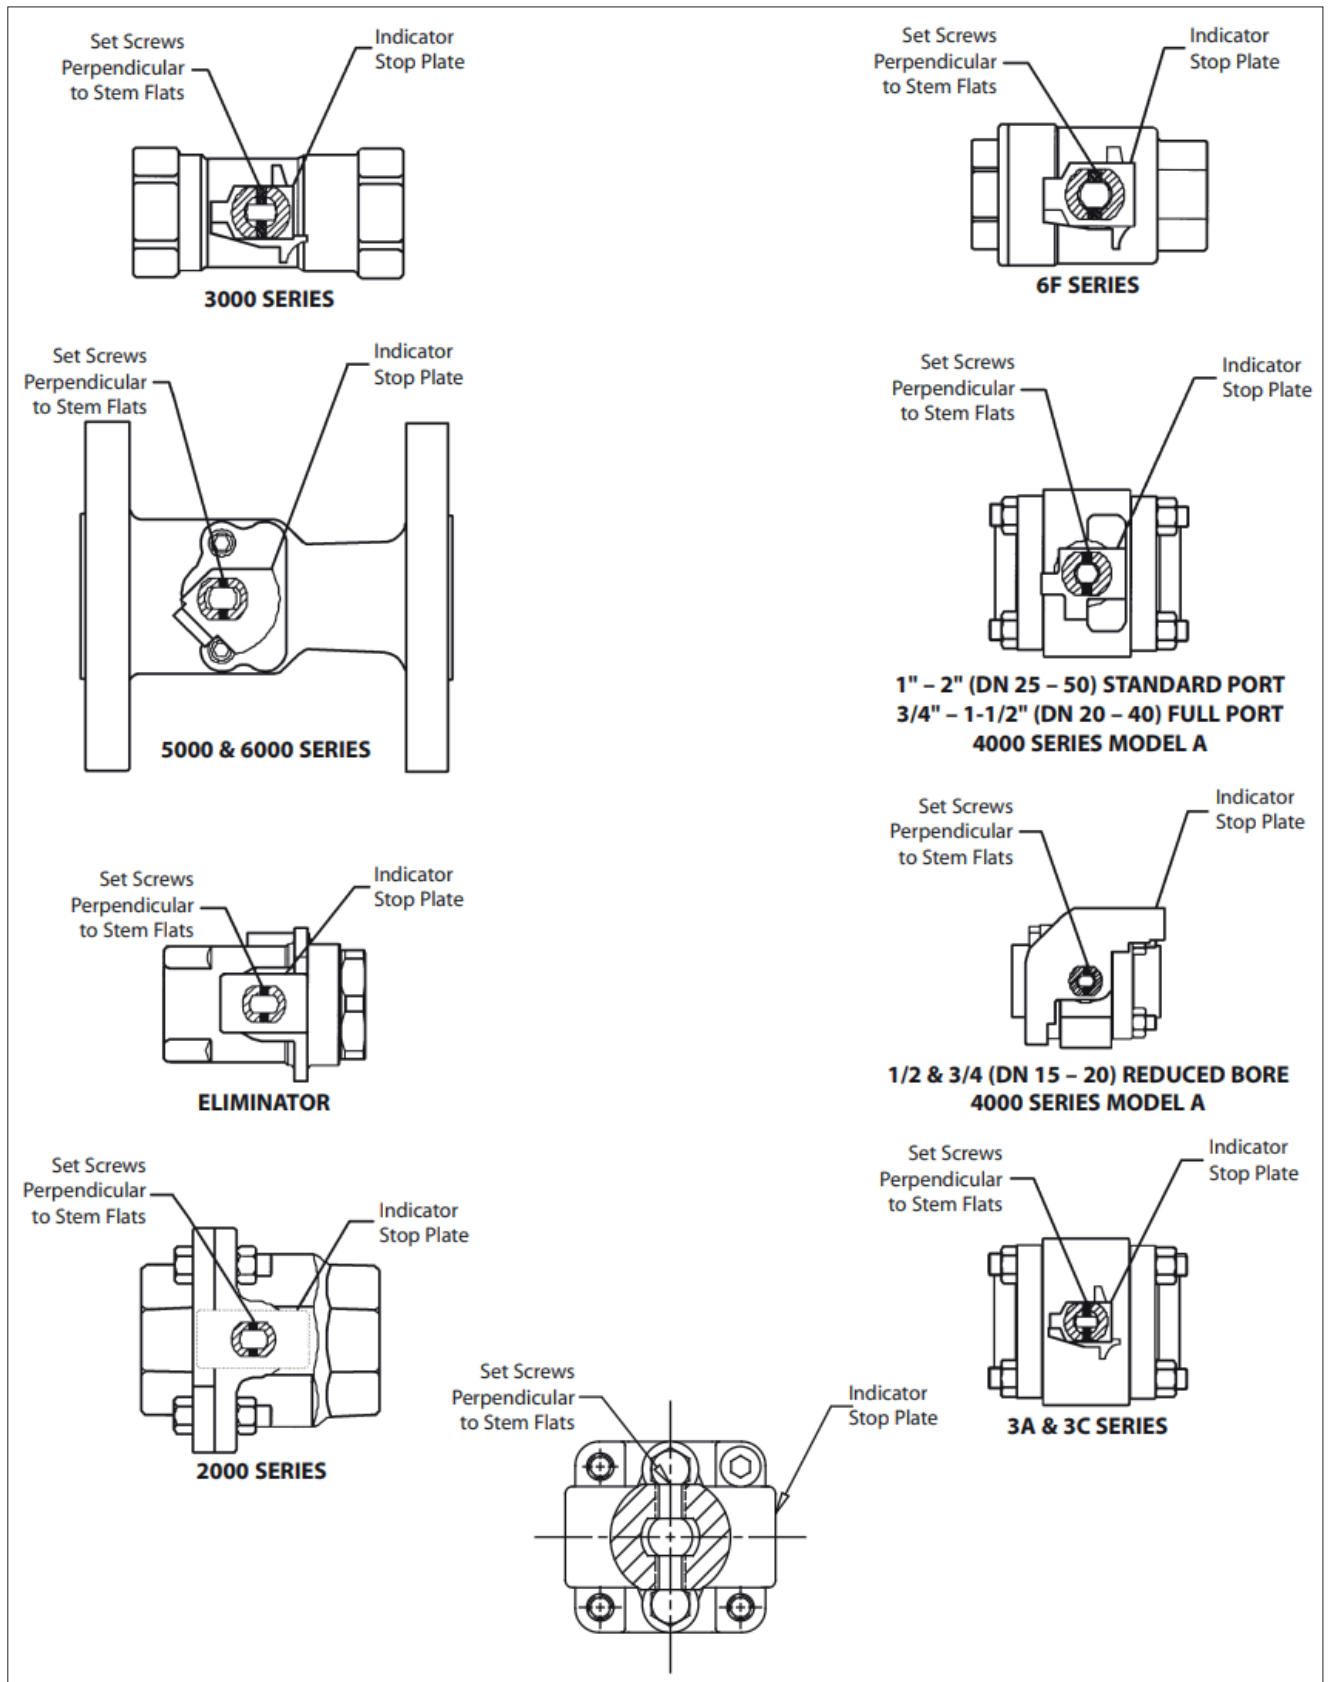

Figure 8.
1. Place the indicator stop plate (2) onto the stem, making sure that it is in the same orientation that the handle was (see Figure 8). Place the external tooth lockwasher (5) on to the stem resting on top of the indicator stop plate (2).
2. Screw the extension shaft (1) onto the stem until it is snug against the external tooth lockwasher (5). If the drilled and tapped holes for the set screws do not line up with the flats of the stem, tighten extension shaft (1) by compressing external tooth lockwasher (5) to line up holes.